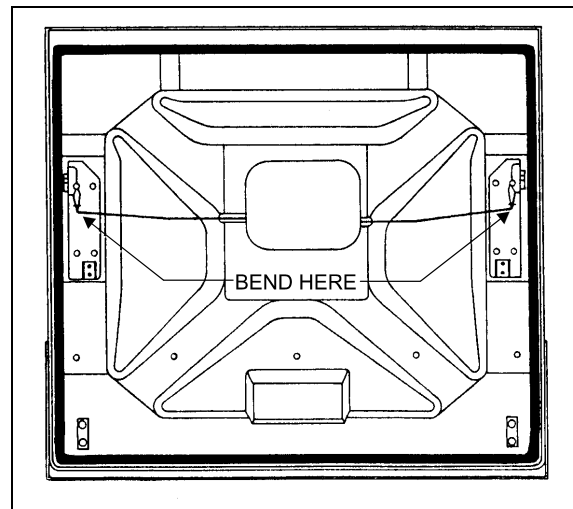

FIGURE 48: BAGGAGE COMPARTMENT DOOR 18067
4. With door slightly open, pull door handle while an assistant checks that both latches release simultaneously. If not, with latch engaged, gently bend the appropriate latch control rod until proper timing is achieved (Fig. 48).